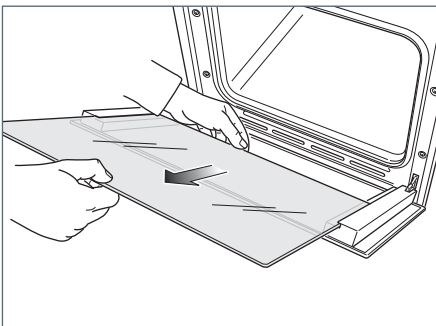

Fig.36e
- Gently pull out the inner pane of glass (Fig. 36e).